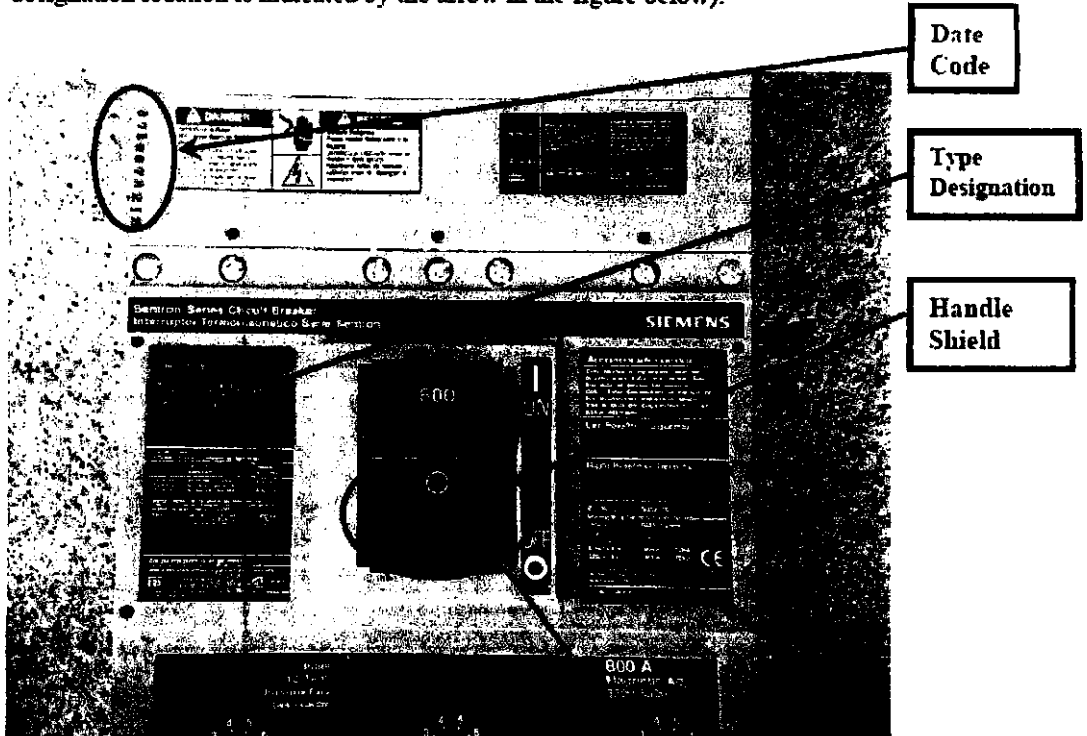

Figure 1 (LMD-frame circuit breaker example)
3. Remove all external accessories from device if attached to or on accessory cover. Remove lug shield by removing two (2) screws (D) attaching it to accessory cover. Remove accessory cover by removing all screws located between the A's. Also remove two (2) screws (C). If device is mounted, remove two (2) mounting screws (B).
5. Normally the handle shield will be in one piece (Fig. 2), if the handle shield is broken (Fig. 1), all pieces must be retrieved from this device. Do not continue use of device if entire handle shield is not retrieved.
7. Replace accessory cover and torque all screws located between the A's to 15 in/lbs. Also replace two (2) screws (C) and torque to 18 in/lbs. If device is mounted, replace two (2) mounting screws (B) and torque to 35 in/lbs. Replace lug shield onto accessory cover and torque two (2) screws (D) to 8 in/lbs. Replace all external accessories according to the installation instructions supplied with those accessories.